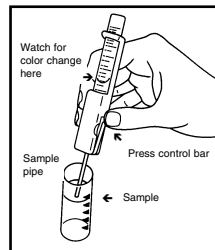

Figure 4
12. Hold the Titrettor with the sample pipe in the sample and press the control bar firmly, but briefly, to pull in a small amount of sample. **The contents will turn orange or pink** (fig 4).